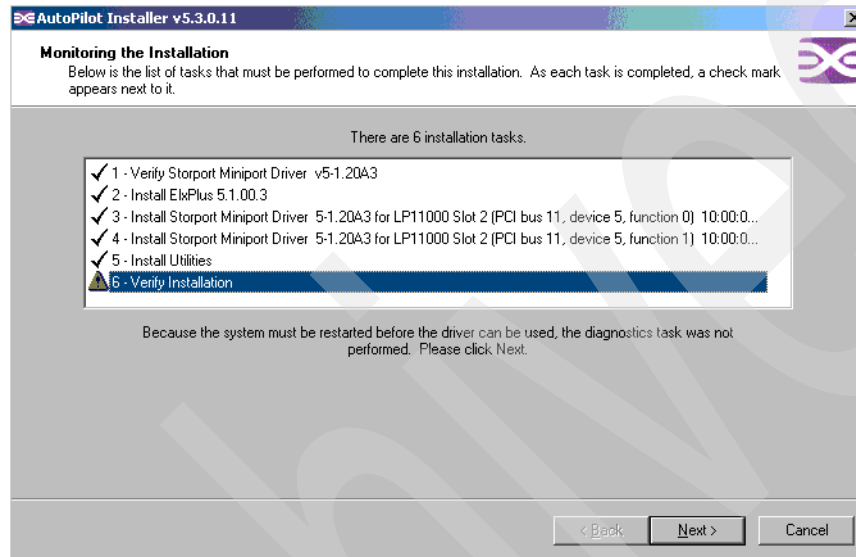

Figure 24-36 Emulex - Monitoring the installation
5. The installation history is displayed (Figure 24-36). Click **Next**.